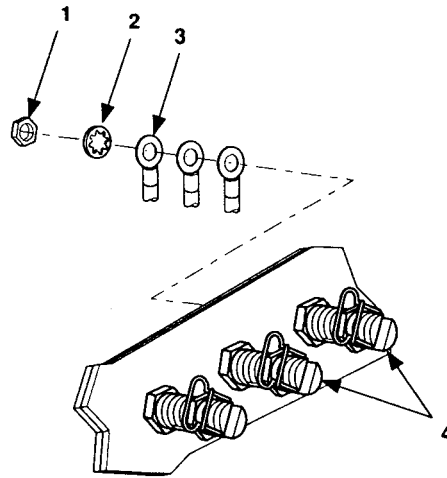

Figure 5-11. Switch Box Load Terminals.
4. Remove nut (1, figure 5-11), internal tooth washer (2), and W9 harness lead (3) from load terminals L0 and L3 (4).
5. Install W9 harness leads (3, figure 5-11), internal tooth washer (2), and nut (1) on load terminals L0 and L3 (4).